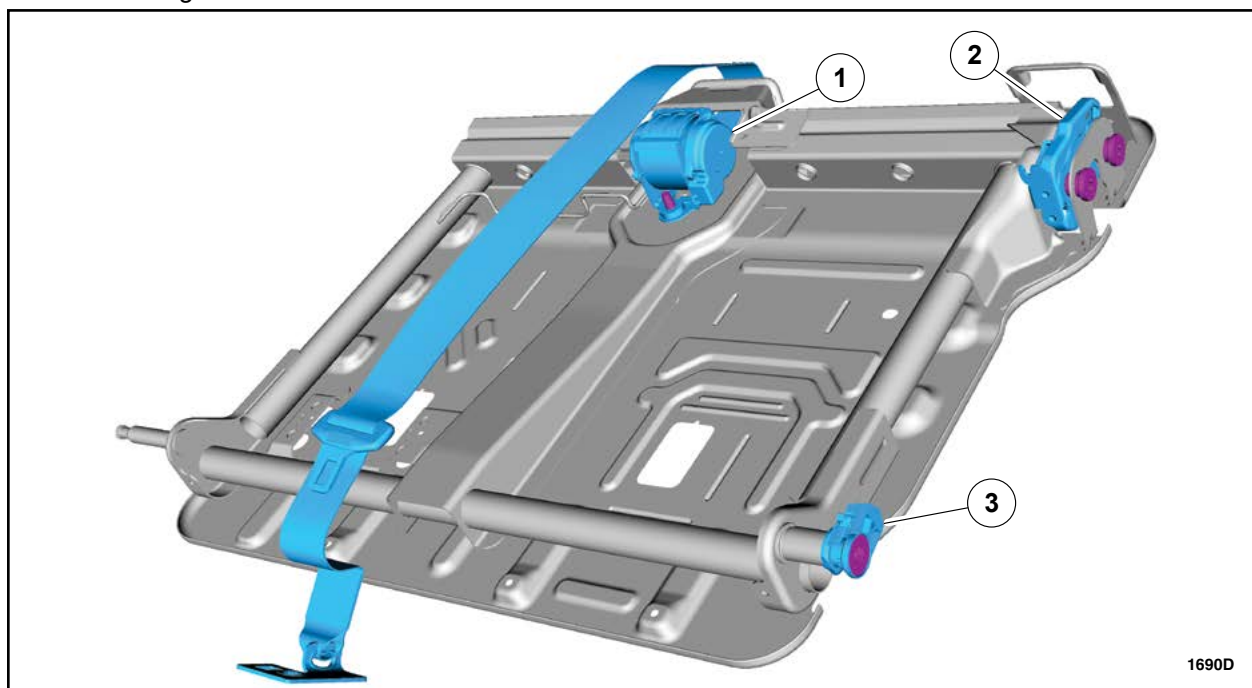

FIGURE 12
14. Transfer the following components to the *new* frame: (See Figure 12.)